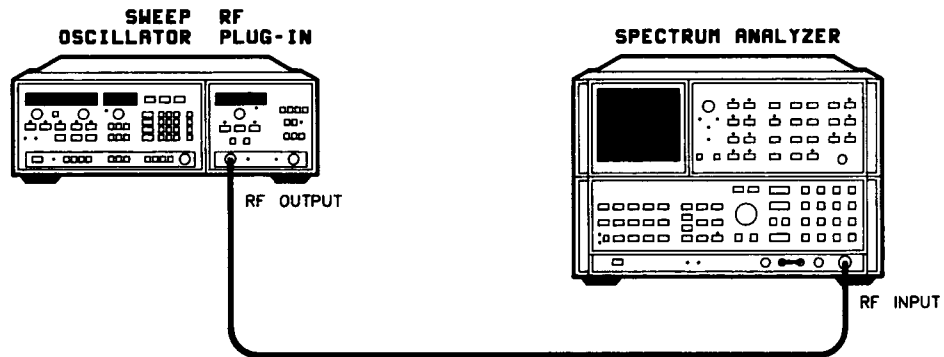

Figure 4-4. Frequency Stability Test Setup
1. Connect the equipment as shown in Figure 4-4. Turn the equipment on. On both the sweep oscillator and the spectrum analyzer, press [INSTR PRESET], and allow one hour warm up.